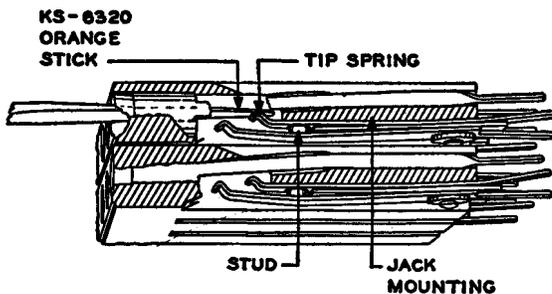

Fig. 1 - Checking Tip Spring for Bind
(2) Check for bind of the tip spring on the stud by inserting a KS-6320 orange stick into the jack as shown in Fig. 1. Insert the orange stick until it strikes against the jack mounting behind the tip spring and rests on the upper surface of the tip spring. Then draw it forward approximately 1/16 inch from this point so that the end of the orange stick will not rub against the jack mounting. Apply a slight upward pressure to the free end of the orange stick so as to depress the spring. It should be realized that this operation of the tip spring may bring it in contact with the ring spring and thereby cause interference with service if the jacks are connected to working circuits. Using the orange stick, retard the return of the spring to its normal position and "feel" for binding of the spring on the hard-rubber stud. Practice will enable the tester to determine readily when this binding occurs. If any bind is noted, proceed as follows.
as shown in Fig. 1, replace the spring as covered in Section 032-350-801. If the ring spring does have the definite kink mentioned above and is not worn excessively, tighten the assembly screws securely with the 3-inch cabinet screwdriver. Inspect the tip spring at this time and make sure it has the oval hole and, if not, replace the spring as covered in Section 032-350-801.